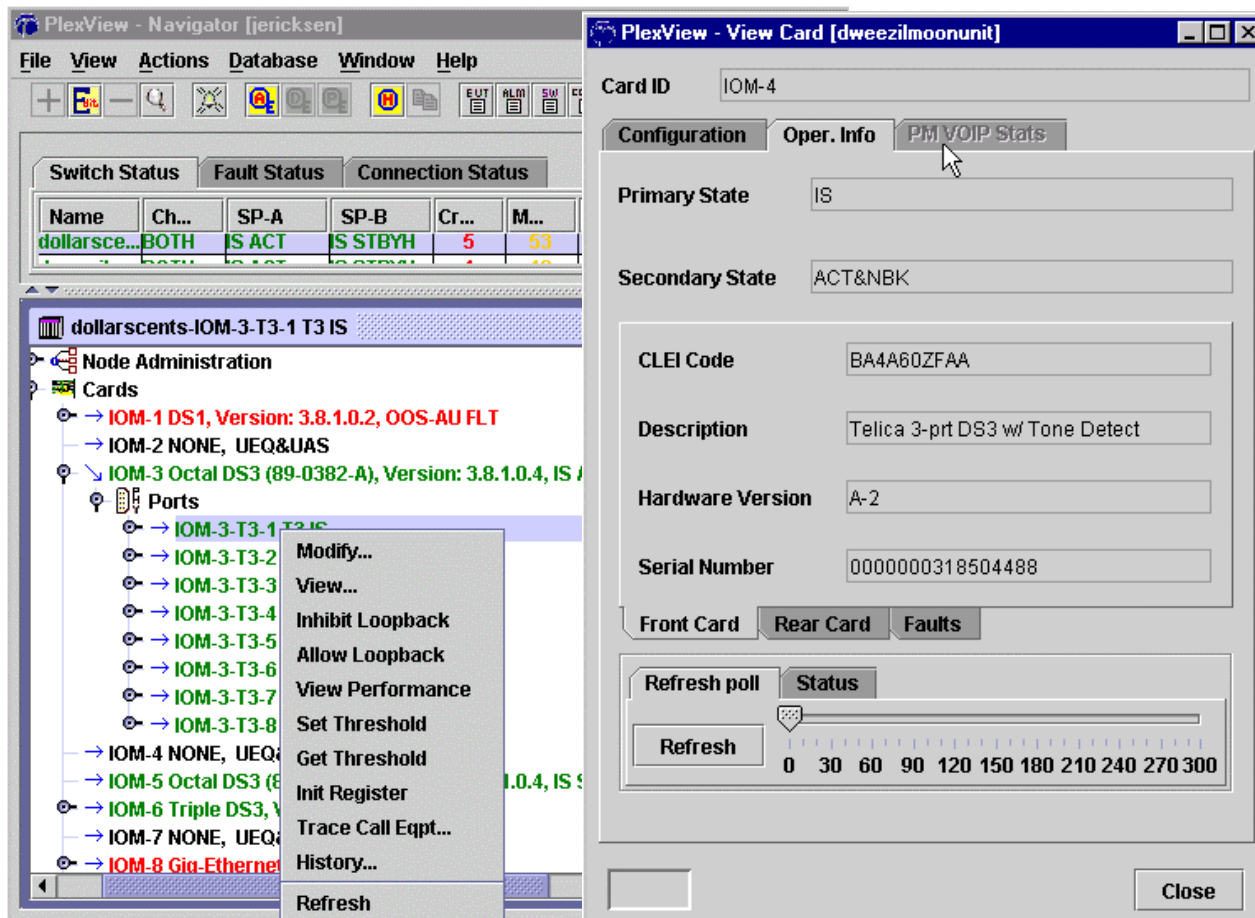

Figure 3. Retrieving Module Information
23. Double-click the switch to select it for the main panel and then double-click *Cards*. Right-click the desired IOM and then select *View* and then *Oper. Info*. Note the CLEI and software version. Refer to Figure 3.
33. Double-click the switch to select it for the main panel and then double-click *Cards*. Right-click the desired IOM and then select *View* and then *Oper. Info*. Note the CLEI and software version. Refer to Figure 3.